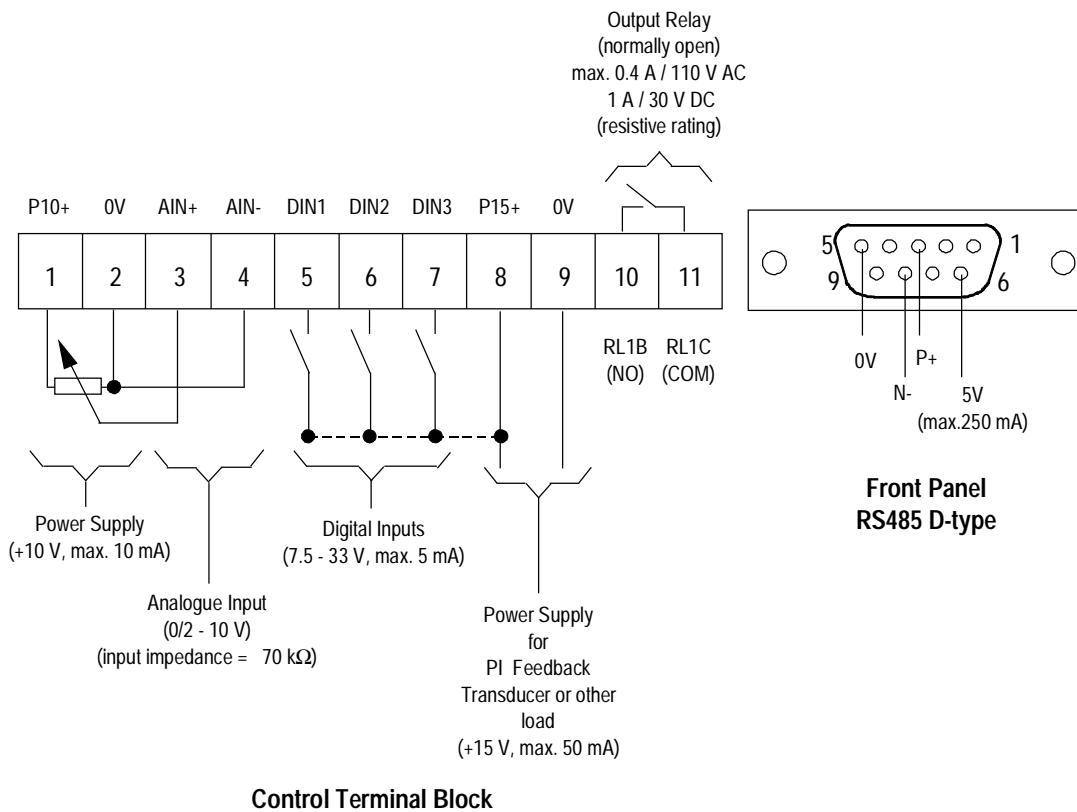
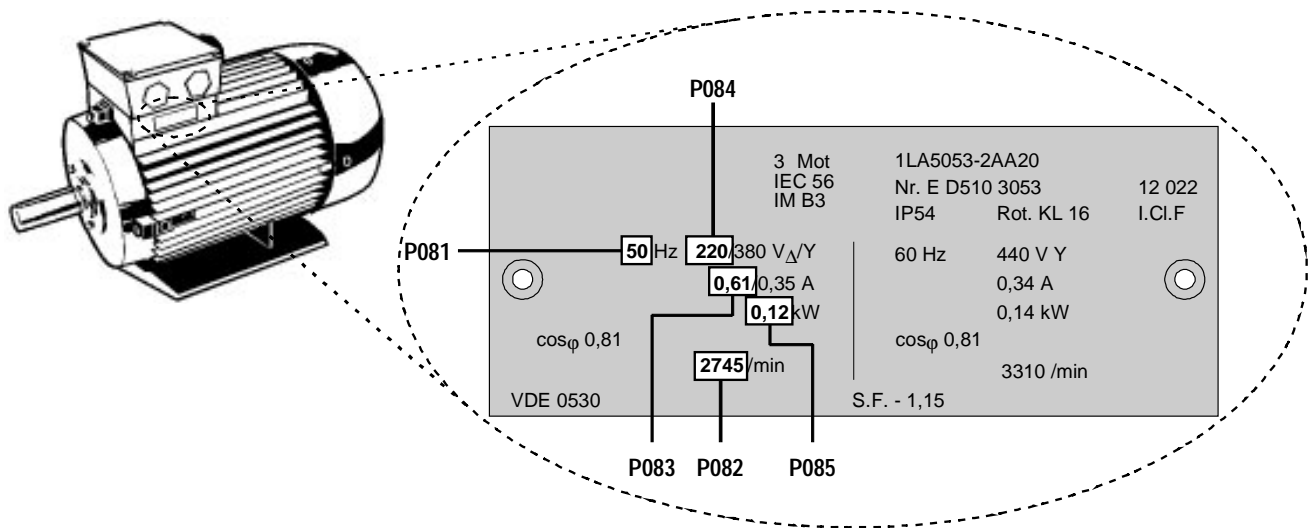

Figure 6: Control Connections
Figure 10: Typical Motor Rating Plate Example
- (1) The inverter does not have a main power switch and is live when the mains supply is connected. It waits, with the output disabled, until the RUN button is pressed or for the presence of a digital ON signal at terminal 5 (rotate right) or terminal 6 (rotate left) - see parameters P051 - P053.
- (2) If output frequency is selected to be displayed (P001 = 0), the corresponding setpoint is displayed approximately every 1.5 seconds while the inverter is stopped.
- (3) The inverter is programmed at the factory for standard applications on Siemens four-pole standard motors. When using other motors it is necessary to enter the specifications from the motor's rating plate into parameters P081 to P085 (see Figure 10). **Note: Access to these parameters is not possible unless P009 has been set to 002 or 003.**
- (1) Connect control terminal 5 to terminal 8 via a simple on/off switch. This sets up the motor for clockwise rotation (default).
- (2) Apply mains power to the inverter. Set parameter P009 to 002 or 003 to enable all parameters to be adjusted.
- (3) Check that parameter P006 is set to 000 to specify digital setpoint.
- (4) Set parameter P007 to 000 to specify digital input (i.e. DIN1 (terminal 5) in this case) and disable the front panel controls.
- (5) Set parameter P005 to the desired frequency setpoint.
- (6) Set parameters P081 to P085 in accordance with the rating plate on the motor (*see Figure 10*).
- (2) Connect a 4.7 k Ω potentiometer to the control terminals as shown in Figure 6 or connect pin 2 (0V) to pin 4 and a 0 - 10 V signal between pin 2 (0V) and pin 3 (AIN+).
- (3) Apply mains power to the inverter. Set parameter P009 to 002 or 003 to enable all parameters to be adjusted.
- (4) Set parameter P006 to 001 to specify analogue setpoint.
- (5) Set parameter P007 to 000 to specify digital input (i.e. DIN1 (terminal 5) in this case) and disable the front panel controls.
- (6) Set parameters P021 and P022 to specify the minimum and maximum output frequency settings.
- (7) Set parameters P081 to P085 in accordance with the rating plate on the motor (*see Figure 10*).